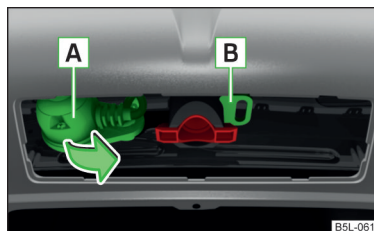

Fig. 162
- Swing the 13-pin socket in the direction of arrow **A** » Fig. 162.
- Plug the trailer cable into the 13-pin socket **A** » Fig. 162.